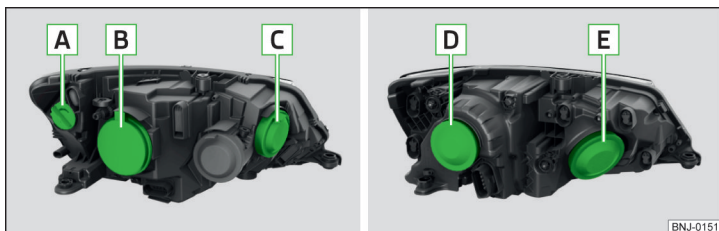

Fig. 205 Halogen headlights/halogen projector headlights
Bulb arrangement » Fig. 205
- Remove the protective cap **B** » Fig. 205 on page 166.
- Fit protective cap **B** » Fig. 205 on page 166.
- › Remove the protective cap **[C]** » Fig. 205 on page 166.
- › Fit protective cap **[C]** » Fig. 205 on page 166.
- › Remove the protective cap **[B]** » Fig. 205 on page 166.
- › Fit protective cap **[B]** » Fig. 205 on page 166.
- Remove the protective cap  » Fig. 205 on page 166.